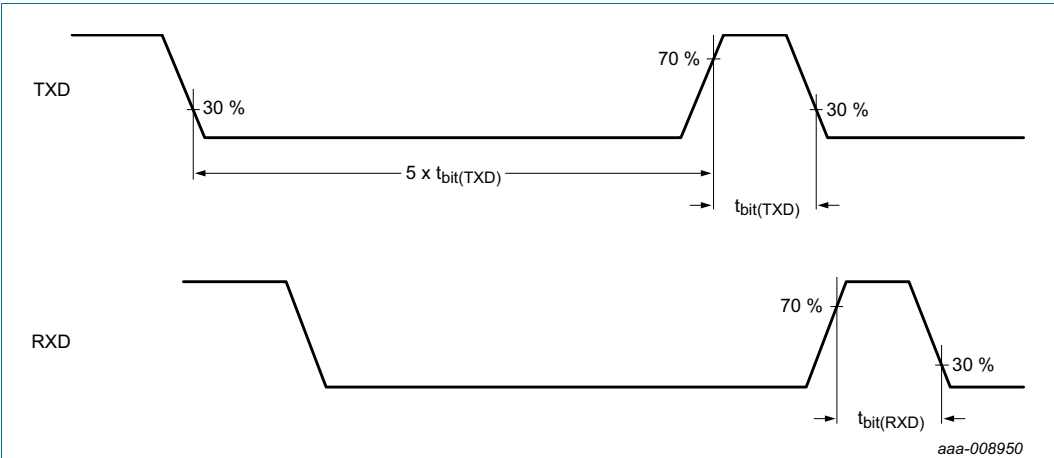

Fig 14. Loop delay symmetry timing diagram
- [2] See Figure 14.
Modifications:	<ul style="list-style-type: none"> • Section 1: text revised (3rd paragraph added) • Section 2.1: feature added (loop delay symmetry) • Table 2: table note amended • Section 6.1.1.4: last paragraph added • Section 6.1.1.6: text revised (3rd paragraph) • Section 6.1.1.7: text revised (4th paragraph) • Table 3: row CAN revised • Section 6.2.2: text revised • Section 6.3.1: text revised • Section 6.3.2: text revised • Section 6.7: text and state diagram revised • Table 14: description for bits CMC revised • Table 15: description for bit CTS revised • Table 16: bit reference corrected • Section 6.11.3: note added at beginning of section • Section 6.16.1: text revised (4th last paragraph); last paragraph added • Table 59: symbols and parameters revised for pins V1 and VEXT; parameters $t_{to(SPI)}$ and $t_{bit(RXD)}$ added; additional measurement for parameter $t_{d(TXD-RXD)}$; parameter $t_{fltr(rst)}$ renamed to $t_{w(rst)}$ and value changed; parameter values changed: t_{wake} for pin WAKE • Figure 14: added • Section 11.2: added • Section 12.1: text updated